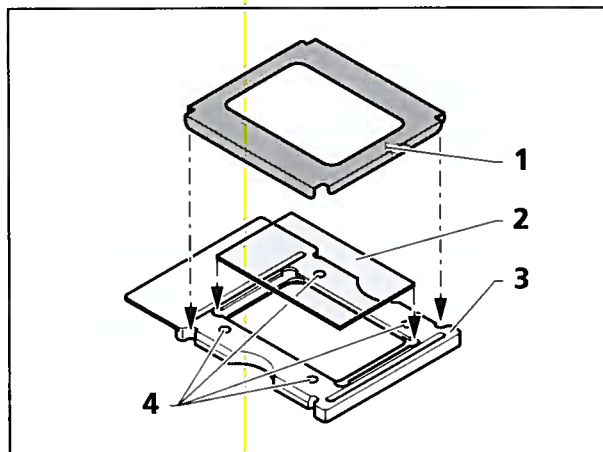

Fig. 4-5 Equipping the mounting frame support
- Take care that all four solenoids (Fig. 4-5/4) are present, otherwise the holding power will not be sufficient.
The mounting frame support consists of two parts, the main body (Fig. 4-5/3) and the holding panel (Fig. 4-5/1).
The four solenoids (Fig. 4-5/4) which are integrated in the main body hold the holding panel downwards so that the slide (Fig. 4-5/2) is firmly clamped.
- Place the mounting frame support on a stable surface so that the holding panel (Fig. 4-5/1) is facing upwards.